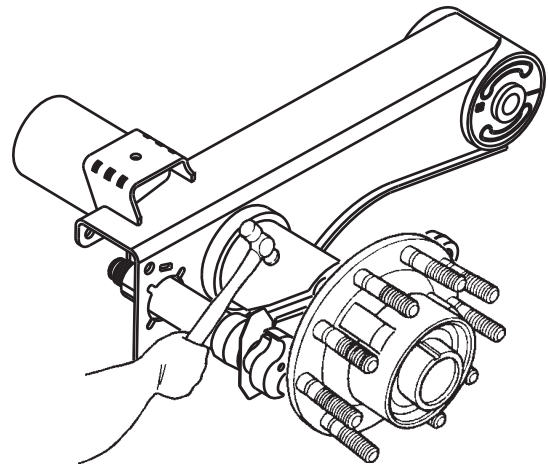

Figure 12. Tap lightly on axle to loosen hub
1. Tap lightly on the unmachined part of the axle with a hammer (figure 12). Tapping may loosen the hub assembly for easier removal.